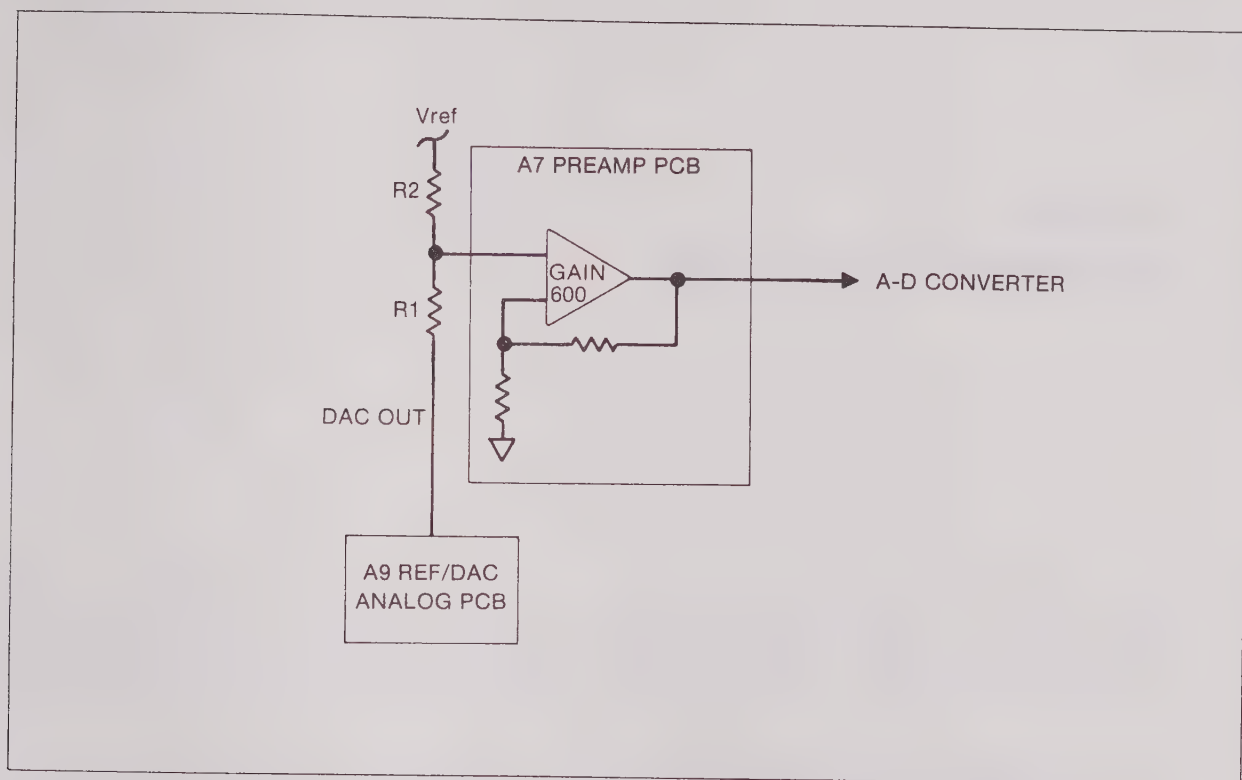

Figure 6-8. A7 Preamplifier Configuration During Internal Calibration
3. Next, the internal calibration program measures internal amplifier gain shifts. The A7 Preamp PCB is used in a dc amplifier configuration (Figure 6-8) with a gain of 600 to determine resistor gain errors in the A9 REF/ DAC Analog PCB and the A6 Sample String PCB. The shifts in gain are determined by comparing the new measurements to the measurements made during the last internal calibration.